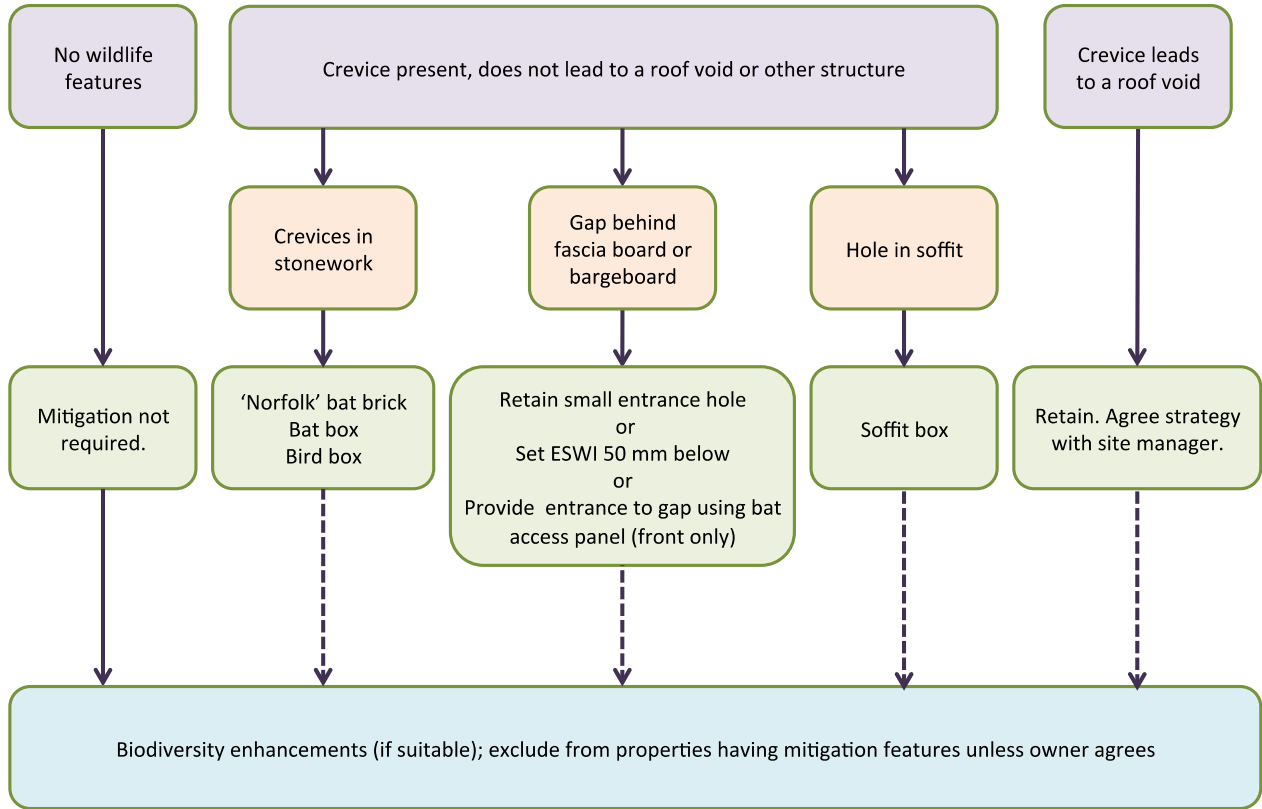

Figure B2-2: Mitigation strategy selection
- 5.1.1 Decide with the site manager on appropriate mitigation measures for properties with issues. Figure B2-2 in Appendix B provides an outline for deciding on the mitigation method. A catalogue of suggested 'off-the-peg' mitigation solutions is given in Pack D, Part 3. The ecologist should have sufficient experience to decide what type of wildlife box/boxes is/are suitable for a given situation.